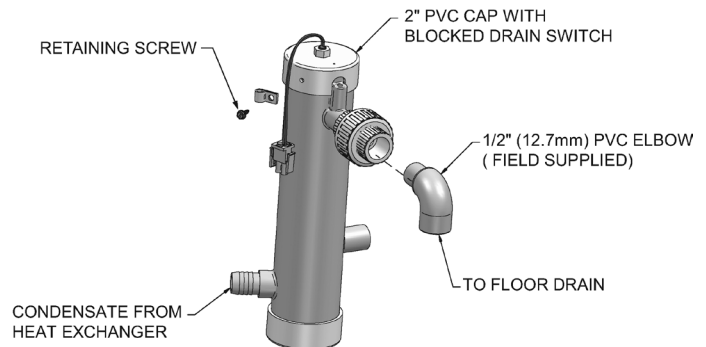

Figure 76. Condensate Trap
2. Remove the PVC cap retaining screw from the PVC cap (Figure 76).
3. Remove the 2 inch PVC cap with the switch located at the top of the trap (Figure 76).